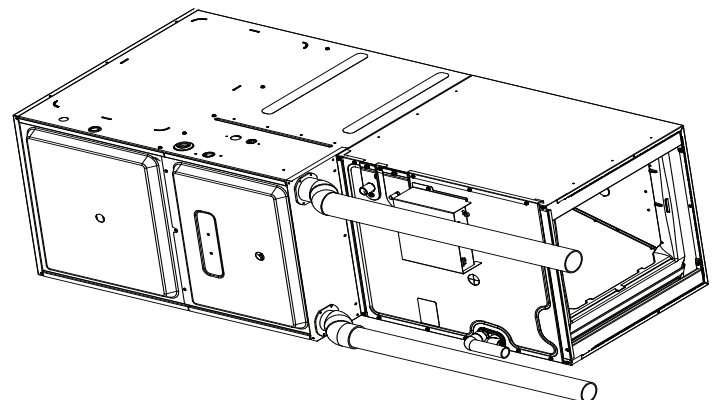
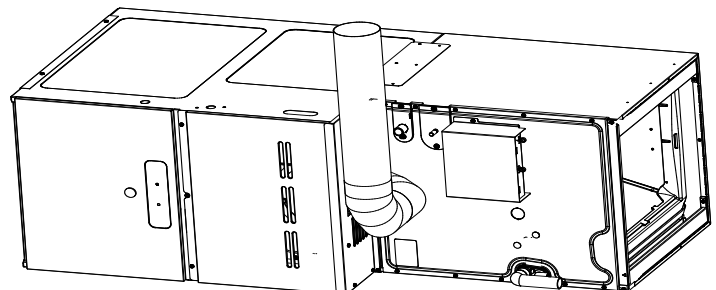

Figure 6A
Figure 6B
4. For all CHPEA models, when paired with an 80% furnace, a 90° B-vent elbow must be used and oriented away from the cased coil and EEV box (see Figures 6A and 6B) to avoid interference with the control box. An additional 45° or 90° B-vent elbow can be used to maintain distance from the EEV box. For 90% furnaces, a 45° elbow or another 90° elbow can be used. Follow furnace installation manual only to complete the set-up. This applies to Horizontal left and right orientations. The horizontal run must be $\leq 75\%$ of the vertical rise and no less than 1/4" upward rise per foot (see Figure 6B).